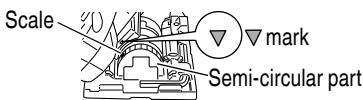

Fig. 19
- (2) Align the scale (from 0 degrees to 45 degrees by 15-degree increments) of the semi-circular part of the base with the [▽] mark on the gear cover. (Fig. 19)